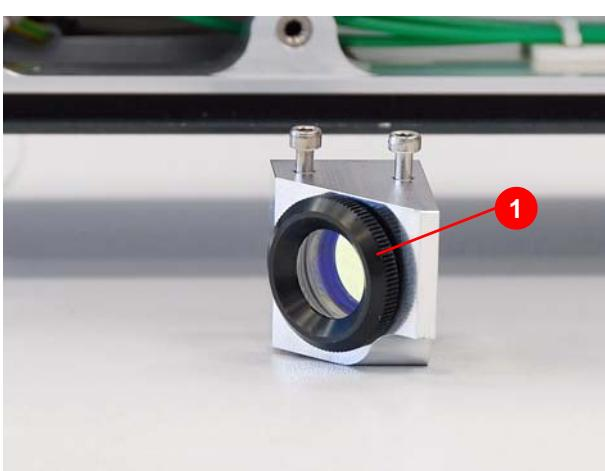

Figure 4.38 Removing the lower deflecting mirror (2)
6. Unscrew the upper deflecting mirror (1) (Figure 4.38) from the retaining block and lay it on a clean surface.